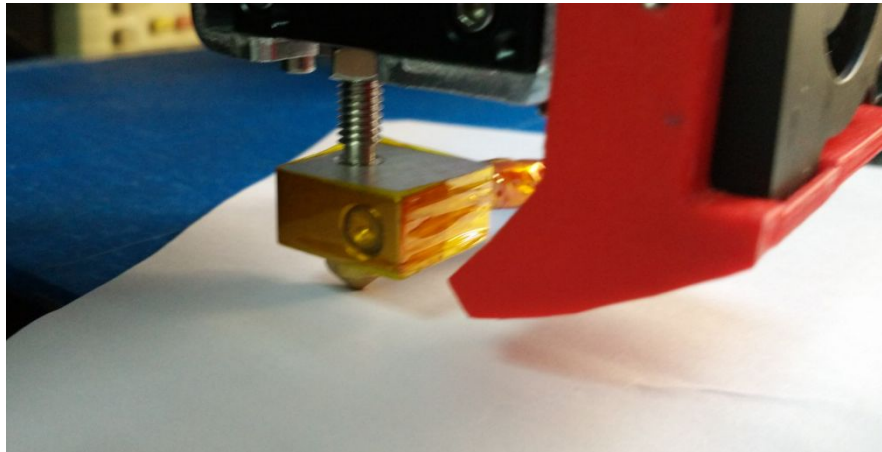

Fig1: check height between extruder head and bed
3. For the convenience of adjusting the gap between extruder head and print plate,please try to use an A4 paper to drag between them if moving smoothly (*Fig 1*).